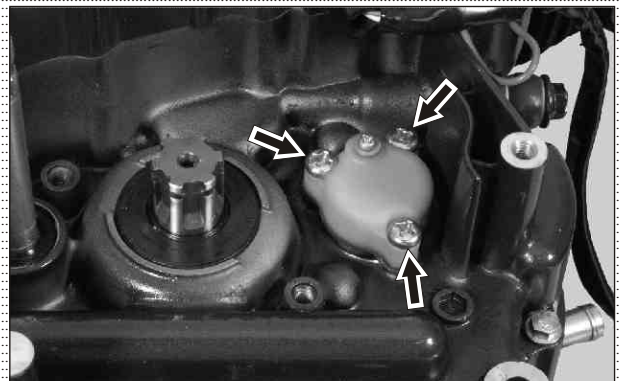

Fig. 3.49
- Remove CRR pan head screw (M5x20 -3 nos) along with spring and plain washer from the body gear shift mounting. (Fig. 3.49)